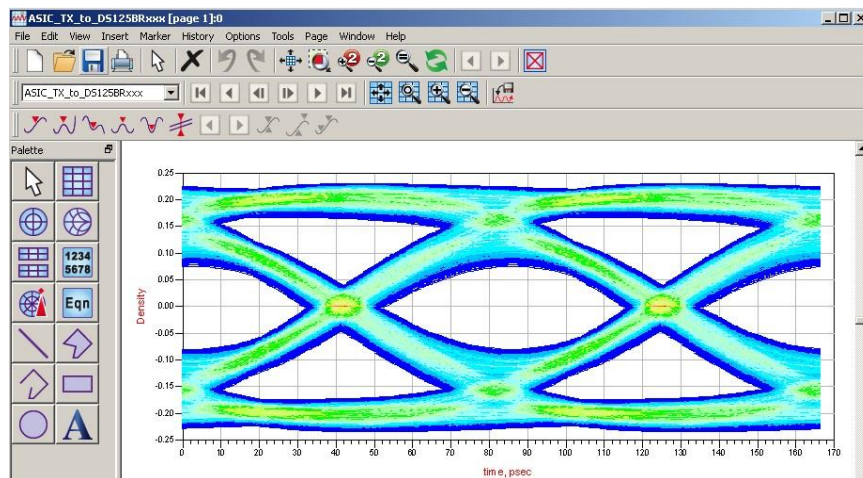

Figure 4: Eye plot for ASIC TX to DS125BR800 RX link
8. The eye plot will appear in the plot window, as shown in Figure 4. Note that this is a plot of the eye as it appears after the DS125BR800’s equalization, but before the TX de-emphasis and VOD is applied.